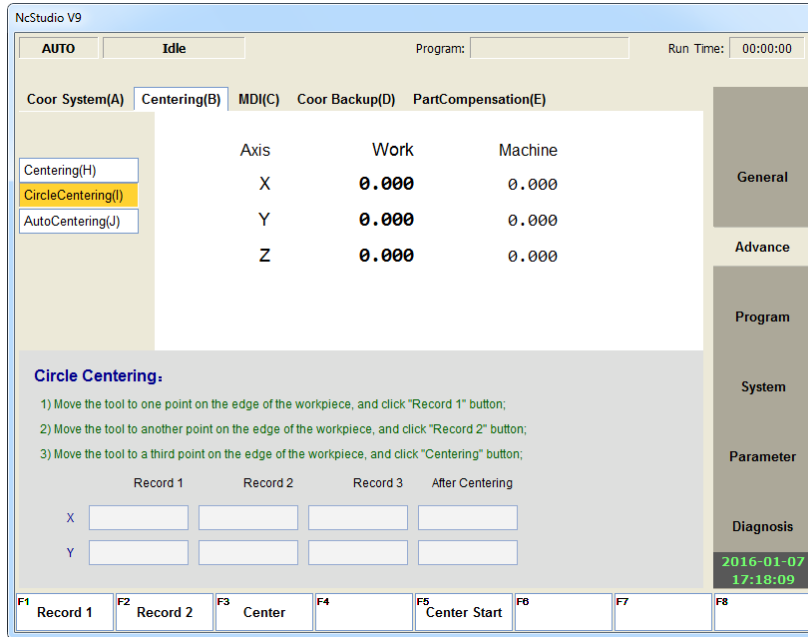

Fig. 3-33 Dialog Box “Circle Centering”
Press SF2 to enter functional area **Advance**, and press letter key B to enter interface **Centering**. Then press letter key I or directly click **CircleCentering (I)** to enter sub interface circle centering, as shown in Fig. 3-33.